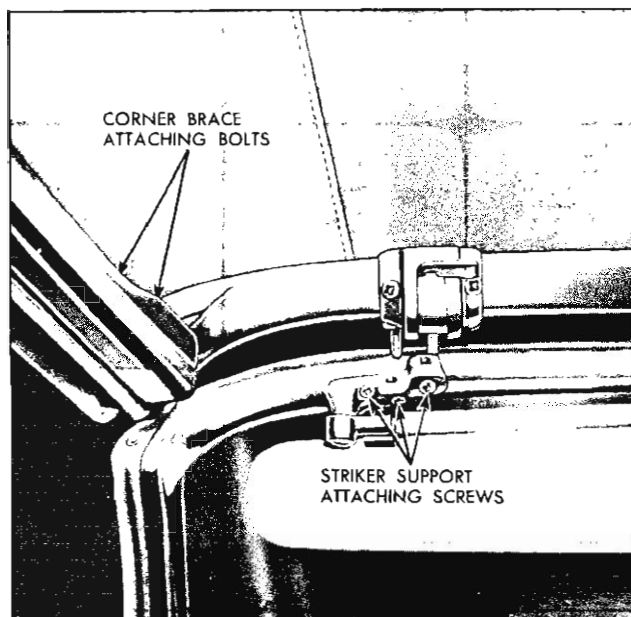

Fig. 121—Front Roof Rail Adjustment
2. Loosen striker support attaching screws and adjust striker laterally as required; then tighten attaching screws (fig. 121).